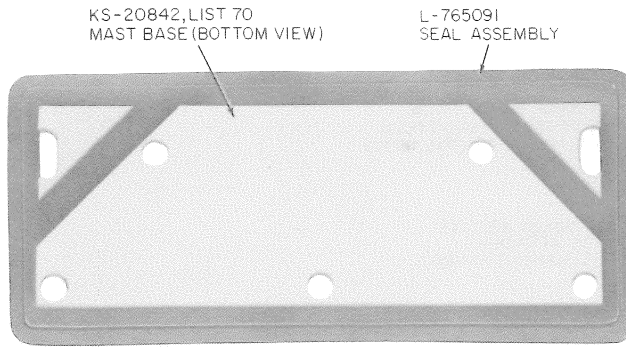

Fig. 30—KS-20842, List 70 Mast (Bottom View)
- (1) With the housing removed from the post, remove the post cap and seal from the top of the post by removing the three remaining cap screws and flat washers.
- (2) Take the L-765004 mast seal, remove the paper backing from the seal and apply glued side of seal next to the mast base (Fig. 30).
- (3) Remove the L-765024 mast cap located between the left and right supports at the mast base by removing the two 1/4-20 by 5/8 screws.
- (4) If a KS-20135, List 3 sign is used, attach it to the mast using the hardware furnished with the sign.